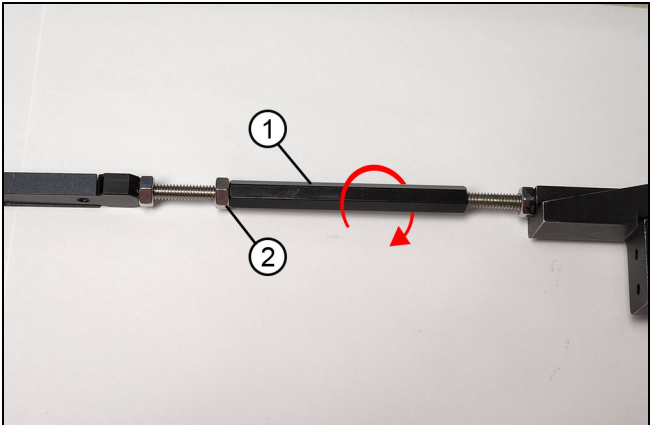

Figure 38
9. Tighten the lock nut against the turnbuckle barrel. See Figure 38.